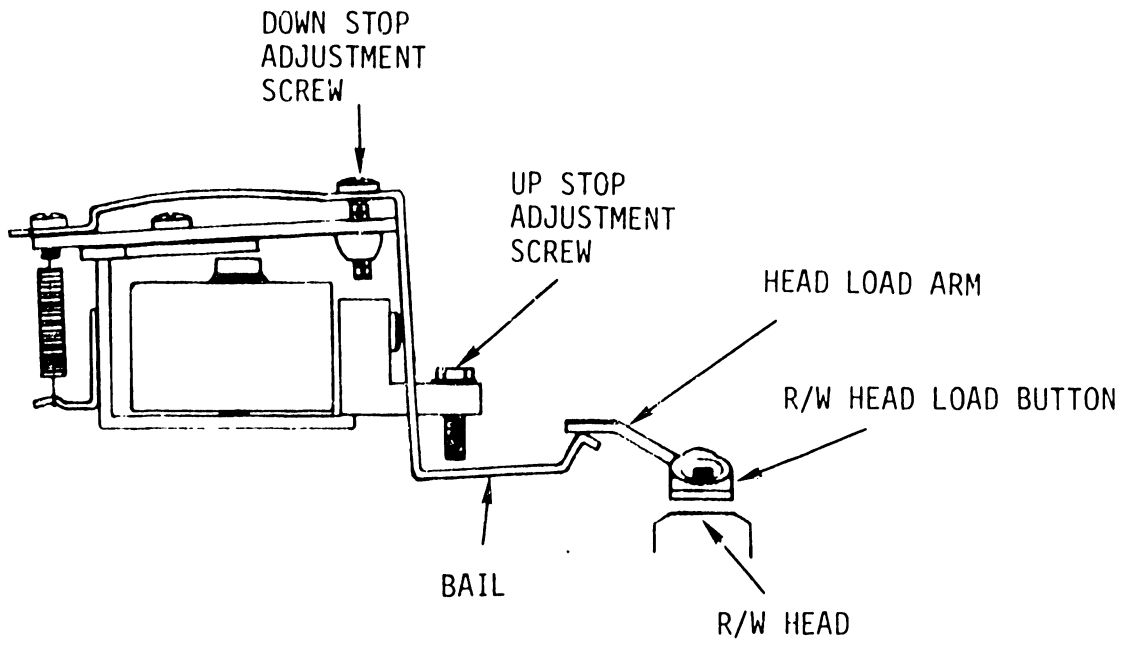
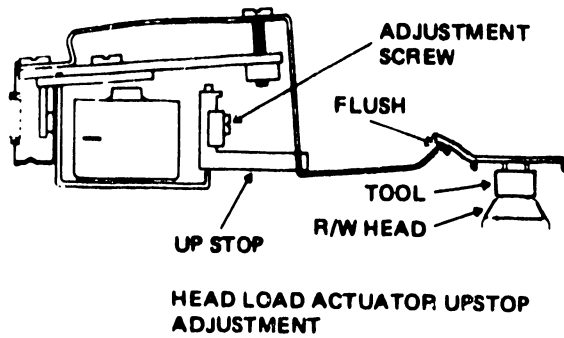

Figure 3 Head Load Actuator Up Stop Adjustment
Figure 4 Head Load Actuator Down Stop Adjustment
- c. Adjust up stop on actuator so that bail just touches head load arm (Refer to Figure 3 and Figure 4).
- f. Adjust down stop on actuator so there is $.020'' \pm .010''$ clearance between head load bail and head load arm (Refer to Figure 3 and Figure 4).